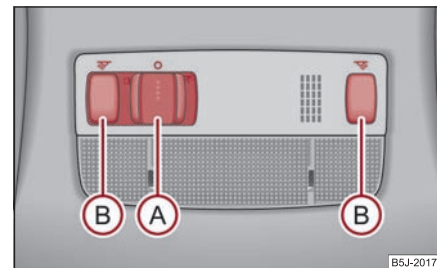

Fig. 54 Detail of the headliner: Interior lighting front / rear
- Press the switch  to the right, the symbol  appears ⇒ fig. 54.
- Press on one of the switches  ⇒ fig. 54 in order to switch the right or left reading light on or off.